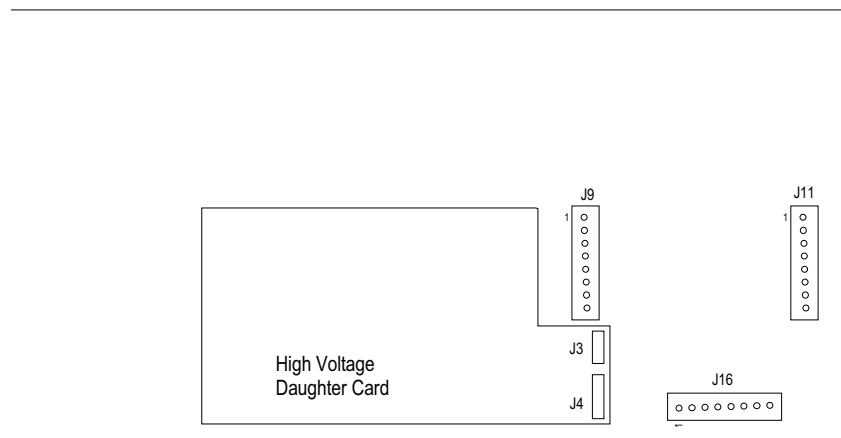
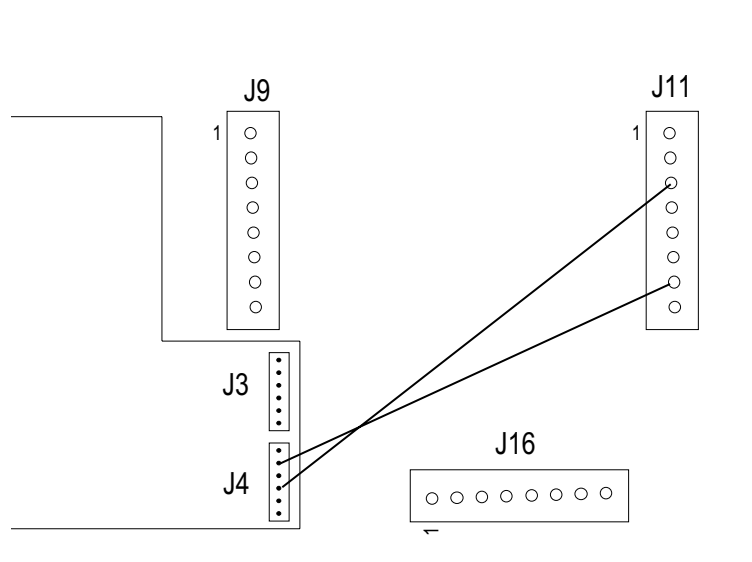

Figure 1.
Figure 2.
On the IO130 and IO53 daughter cards there are (2) jumper connectors J4 (pins 1-5) and J3 (pins 1-5) (see figure 1). Also, on the IO130 and IO53 digital IO mother board are (2) jumpers labeled J11 and J16. These are provided to jumper voltages from the backplane instead of supplying voltages to V_{in}/V_{rtn} pins on the module's front panel.
First, the user will open the top cover of the IO130 to view the daughter card and motherboard as shown in Figure 1. Next, wire the IO130 as directed below (refer to Figure 2).
****At this point the IO130 should be connected as shown in figure 2. Where Vin connects to +12 V and Vrtn connects to GND. Now, determine the pin levels before enabling tristate. Set the odd pins to +12V and even to GND.****